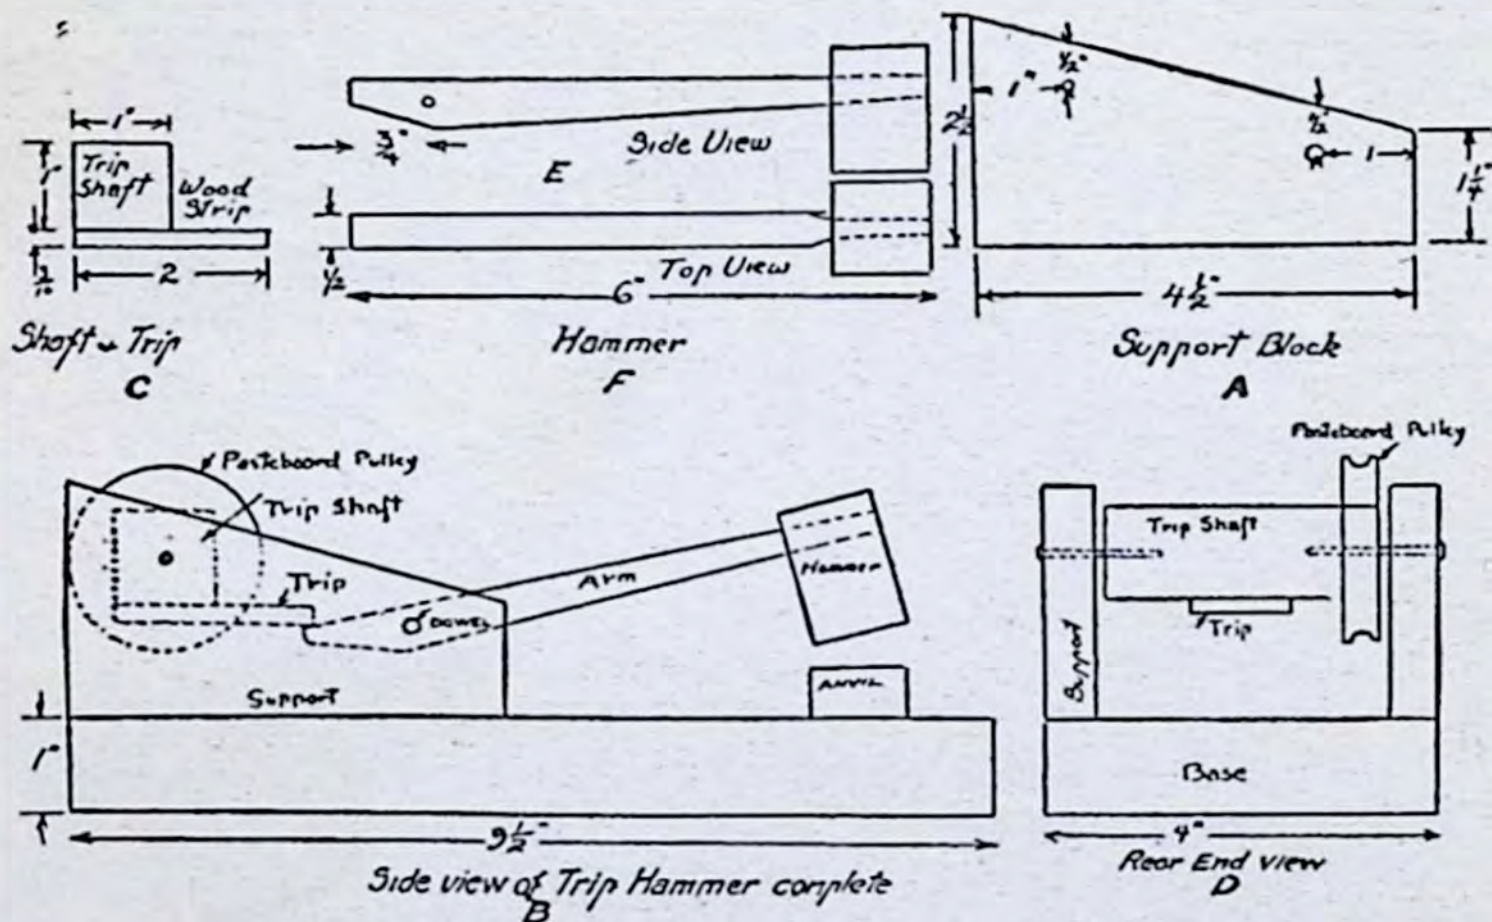

Fig. 52
(60) **HOW TO MAKE AN ELECTRIC TRIP HAMMER:** Get a board 1 inch thick, 4 inches wide, and  $9\frac{1}{2}$  inches long, and then cut out two support blocks  $\frac{1}{2}$  an inch thick,  $1\frac{1}{4}$  inches high on one end,  $2\frac{1}{2}$  inches high on the other end and  $4\frac{1}{2}$  inches long; drill two  $\frac{1}{16}$ -inch holes in them near the top and bore two  $\frac{1}{4}$ -inch holes in them near the bottom, as shown at A in Fig. 52. Nail these supports to the base at one end and